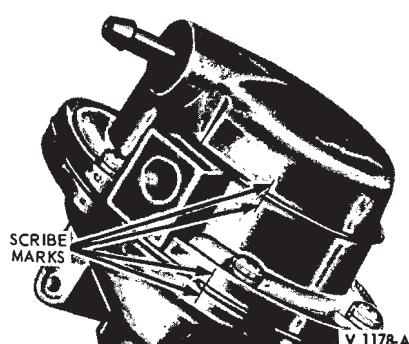

FIG. 8—Scribe Marked Fuel Pump
1. Scribe marks on the fuel pump body, valve housing, and valve housing cover (Fig. 8) so that these parts can be assembled in their original position.